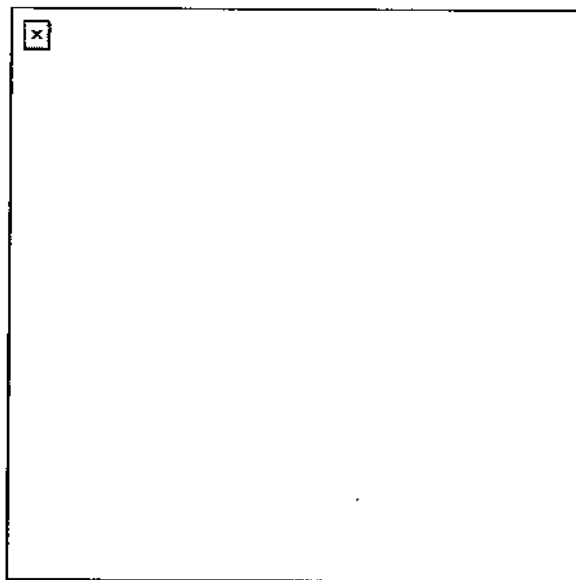

Figure 191-381-1252-1
- e. Check the hammer, safety, and trigger to see if they operate. Activate the disconnecter assembly to see if it functions (Figure 191-381-1252-1).